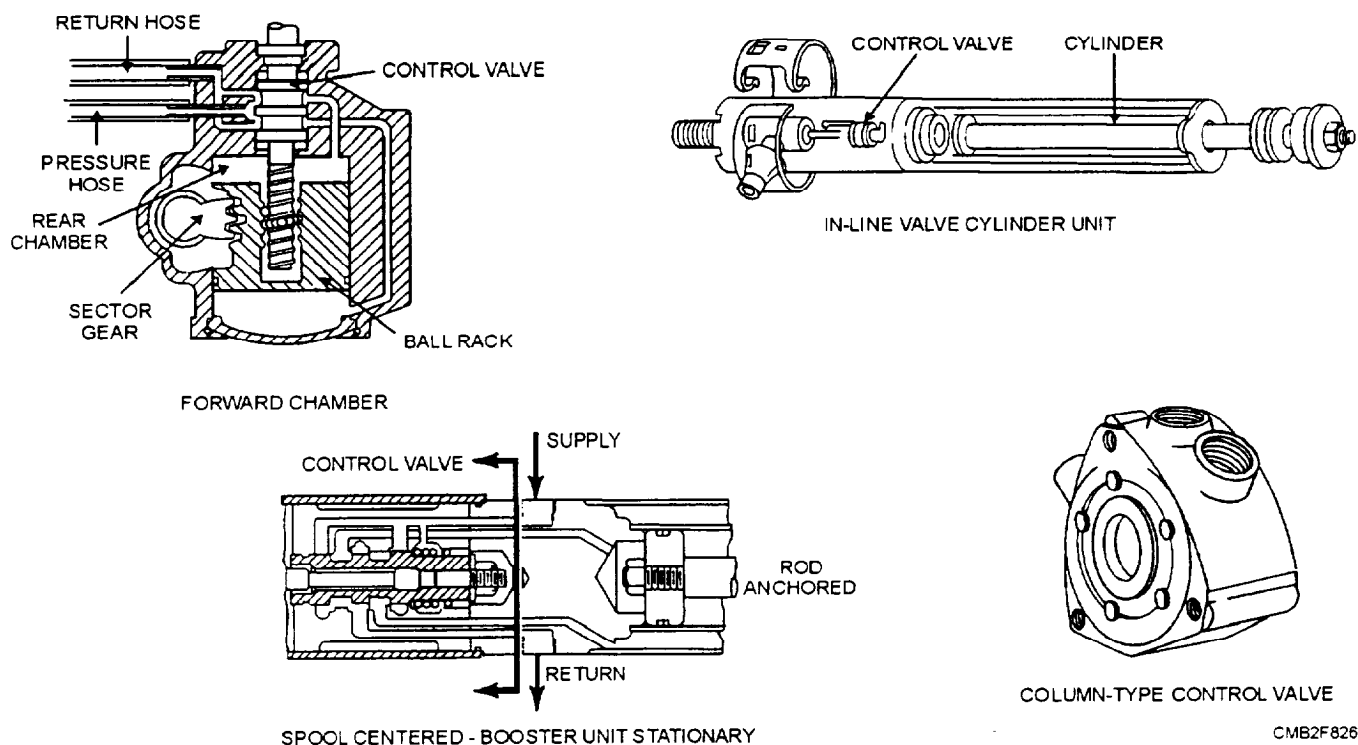

Figure 8-26.—Control valve.
- **CONTROL VALVE** (fig. 8-26)—The control valve (rotary or spool type), which is actuated by steering wheel movements, is designed to direct the